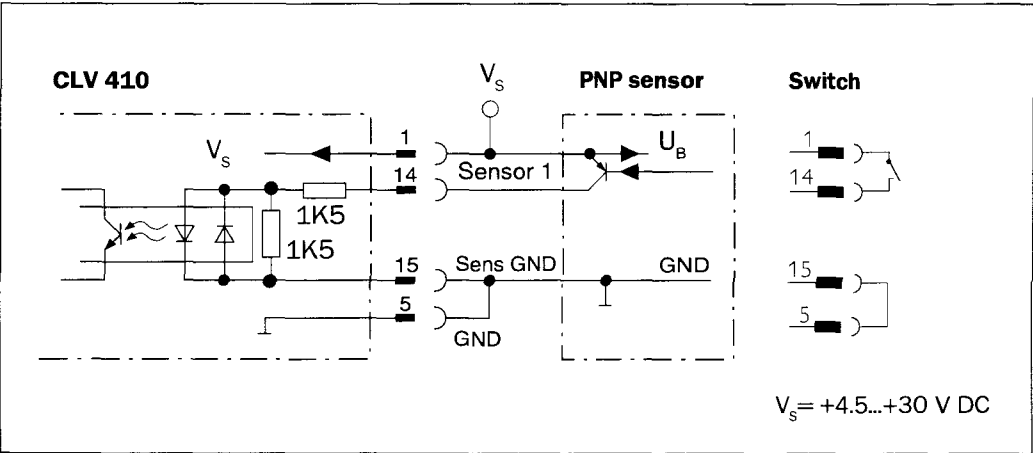

Fig. 5. Connecting the Sensor 1 input to an external reading pulse sensor
- Connect the sensor to the CLV as shown in Fig. 5